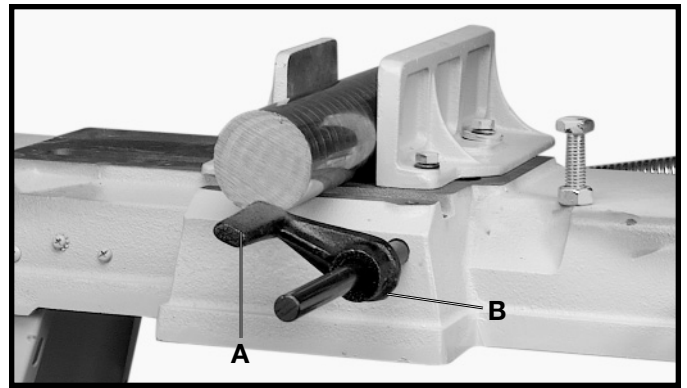

Fig. 26
The stock stop is used when more than one piece is to be cut to the same length. Position the stop block (A) Fig. 26, the desired distance away from the blade. It is good practice to have the work contact the stop at the bottom of the work, as shown. The stop may be repositioned in or out by loosening set screw (B) and moving the stop accordingly. When not using the stock stop, rotate the stop below the table surface.